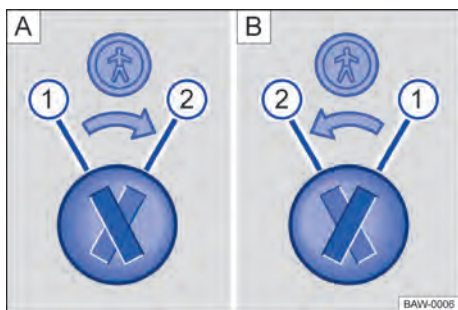

Fig. 46 Childproof lock: **A** rear left door, **B** rear right door.
Key for → **Fig. 46**:
- Insert the key blade into the childproof lock groove to enable or disable the lock → **Fig. 46**.